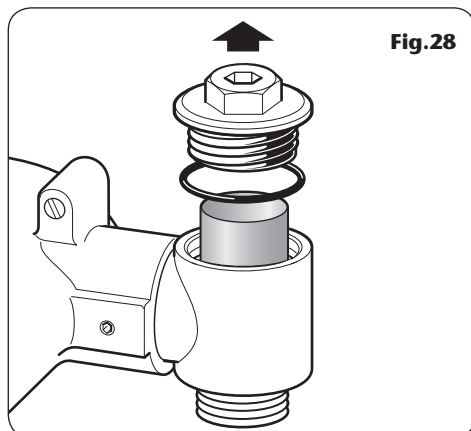

Fig.28
- b. Unscrew the elbow cap using an Allen key and pull off the cap complete with the filter (**fig.28**).